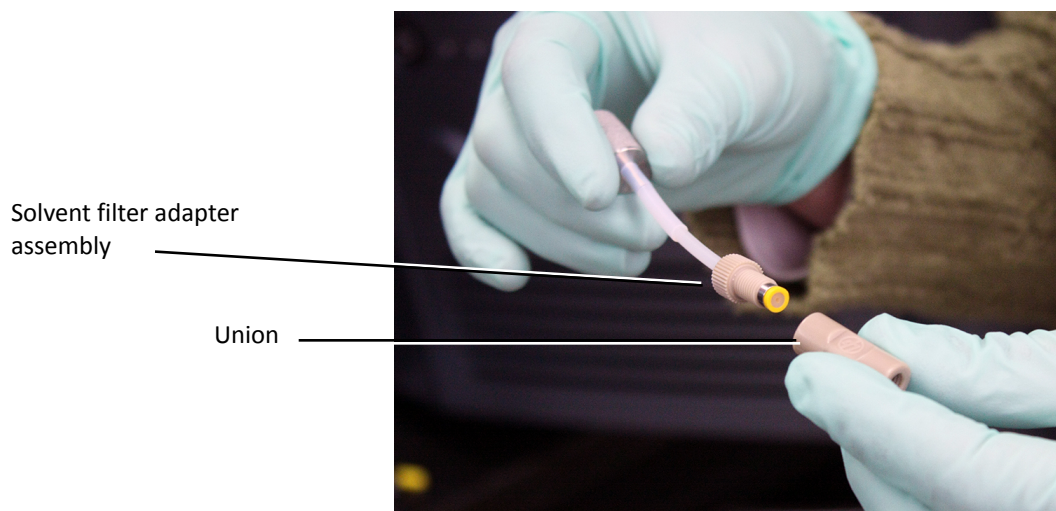

Figure 8 - Connecting the union and the solvent filter adapter
9. Screw the union onto the solvent filter adapter assembly (Figure 8).